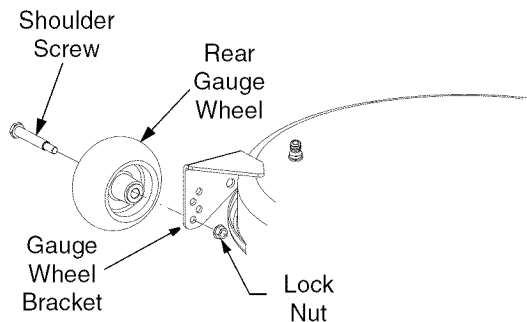

Figure 39
- Remove the lock nut securing one of the gauge wheel shoulder screws to the deck. Remove the gauge wheel and shoulder screw. See Figure 39.